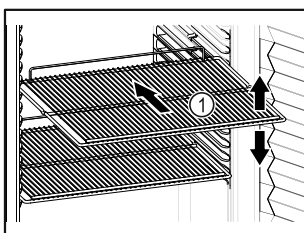

Fig. 59 Example illustration
- ❑ If there are adjustable shelves *Fig. 59 (1)*, position them as required.